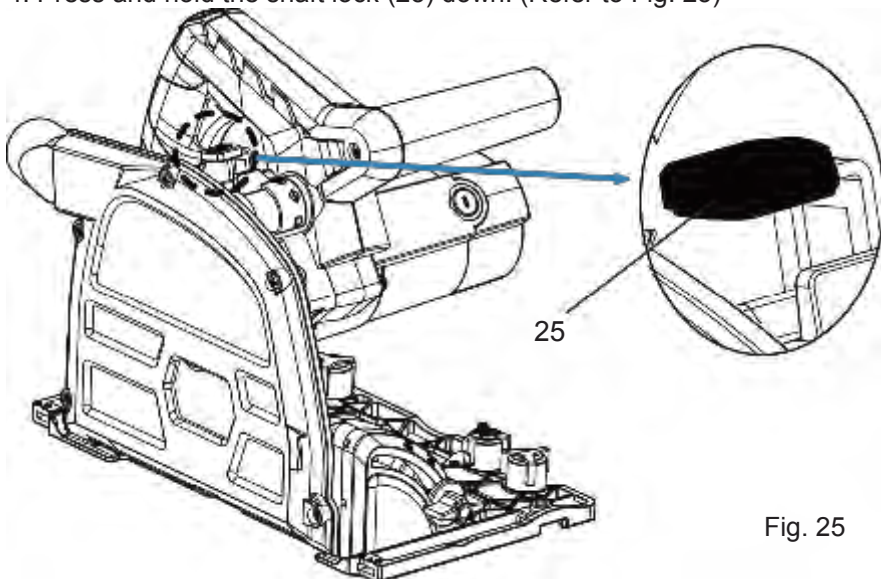

Fig. 25
2. Set the mode selector (18) to the change saw blade icon. (Refer to “Mode selection” section)
3. Press the plunge lock button (1) down and push the motor down.
4. Press and hold the shaft lock (25) down. (Refer to Fig. 25)